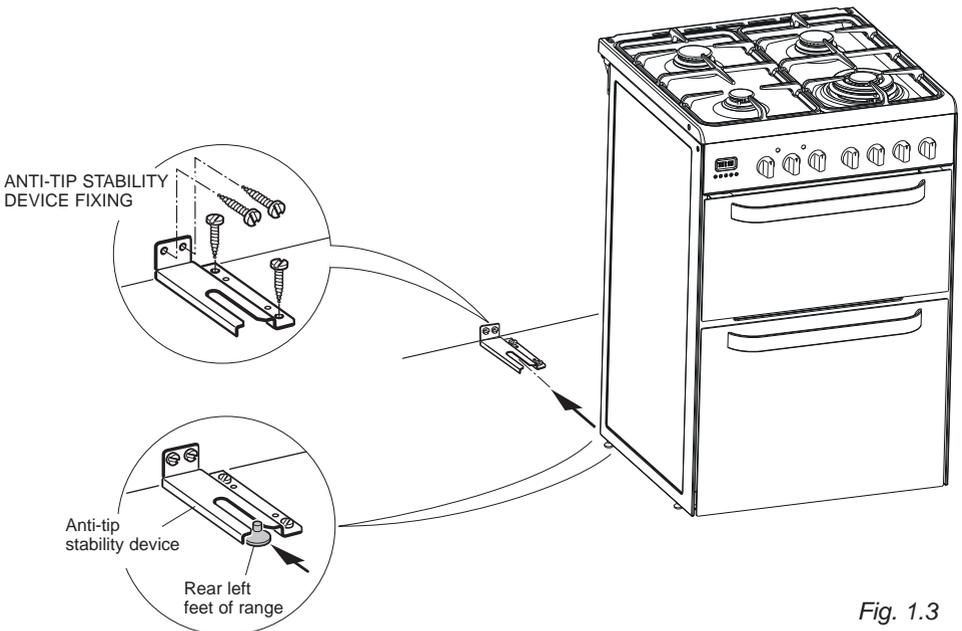

Fig. 1.3
1. After you have located where the cooker is to be positioned, mark on the wall and on the floor the place where the four screws of the anti-tilt bracket have to be fitted. Please follow the indications given in fig. 1.3.
2. Drill four 8mm diameter holes for the fixing screws (two in the wall and two in the floor—see fig. 1.3) and insert the plastic plugs supplied.
3. Attach the anti-tilt bracket to the floor and rear wall using the four screws supplied, as shown in fig. 1.3.
4. After attaching the anti-tilt bracket securely, slide the cooker into place. Ensure that the rear left foot slides under the bracket, as shown in fig. 1.3.